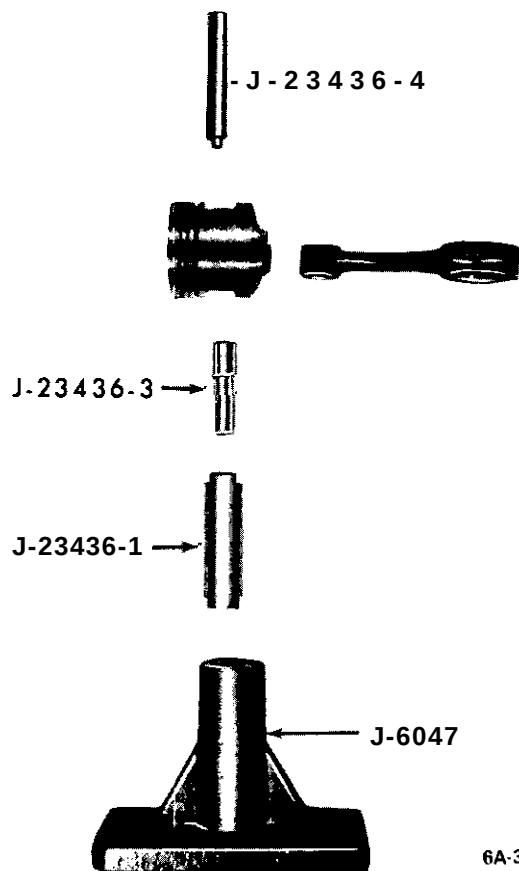

Figure 6A-37 Piston Pin Installation Tool Layout - 1.9 Engine
e. Line up pin on piston, and using tool J-23436-4 press pin into piston. See Figure 6A-37.